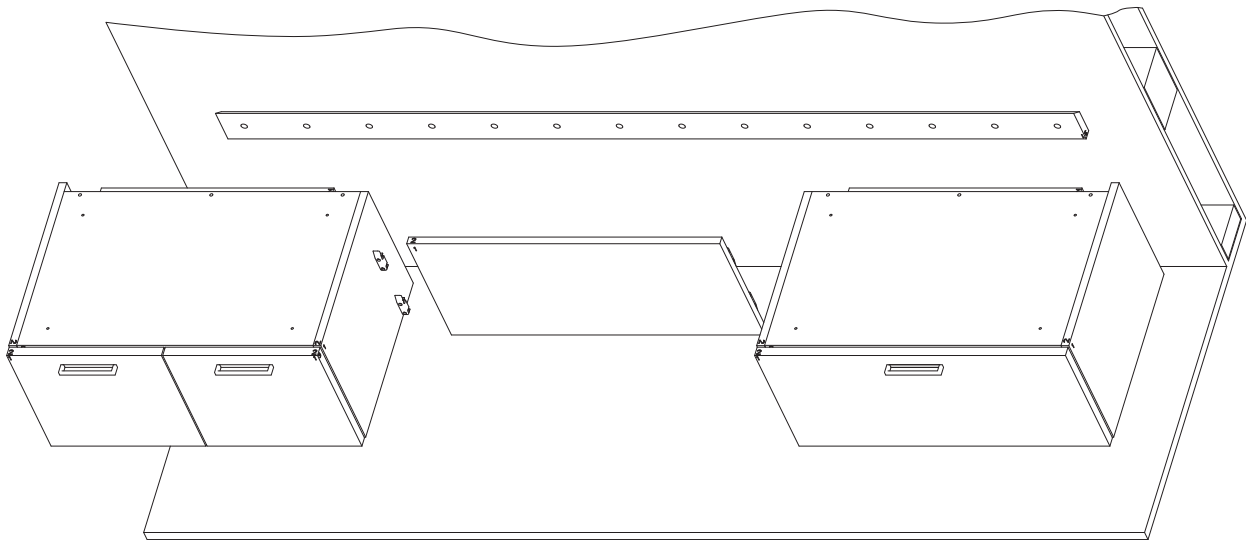

Fig. 5
1. With the end units now in place on the wall, install the modesty panel in between by use of the multi-clips. A tap may be required to fully engage the multi-clips. (Fig. 5)